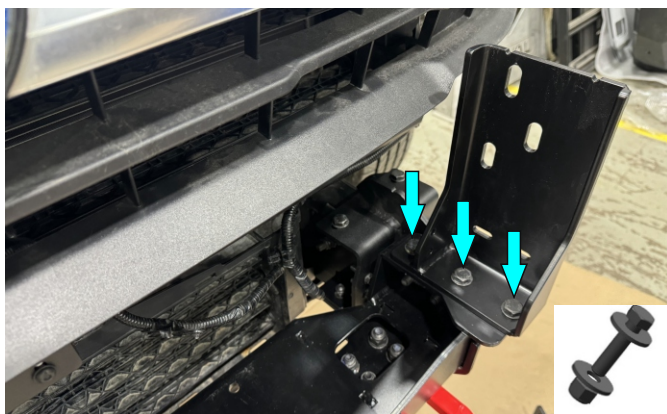

Fig.43
43. Secure bumper brackets (items 19, 26) using bolts M10x30, washers M10, nuts M10 (items B2, H3, E4) (fig.43).